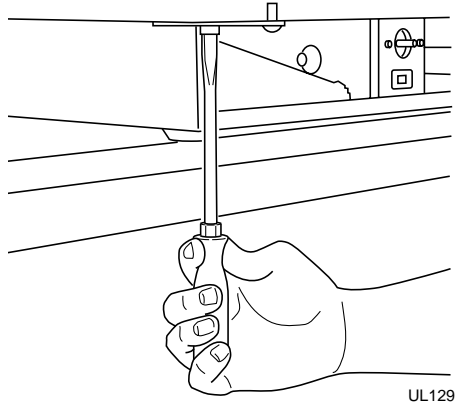

Figure 23
8. Install bottom hinge on cabinet, opposite side, aligning flat edge of hinge with outer edge of unit. Partially tighten screws until door is aligned. See Figure 23.